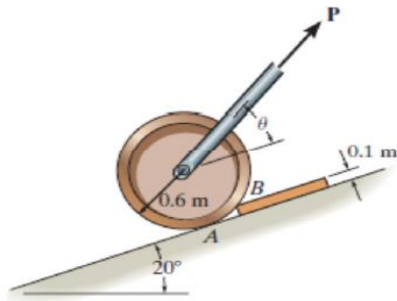

Figure 3
- Determine the magnitude and direction θ of the minimum force P needed to pull the 50-kg roller over the smooth step (Fig. 3).